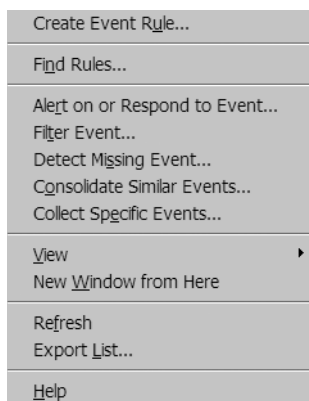

Figure 3-11. *Selecting the Alert on or Respond to Event rule*
1. In the Administrator Console, expand the ACME SNMP rule group and right-click Event Rules. From the pop-up menu, select the Alert on or Respond to Event rule. This is shown in Figure 3-11.